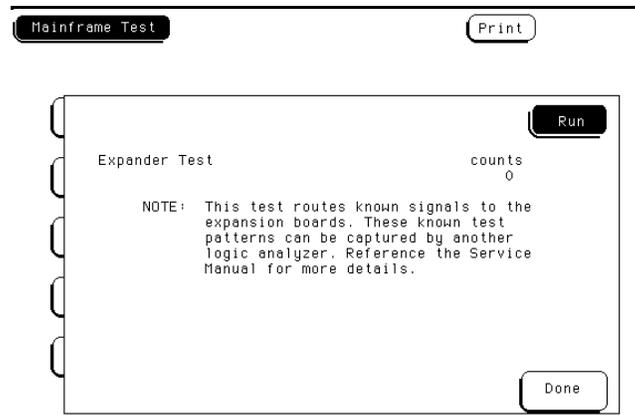

Figure 6-36. Expander Test Screen
- e. In the Expander Test screen shown in figure 6-36, touch **Run**, slide your finger downward to **Repetitive**, then lift your finger. The Expander Test runs repetitively until you touch **Stop**.